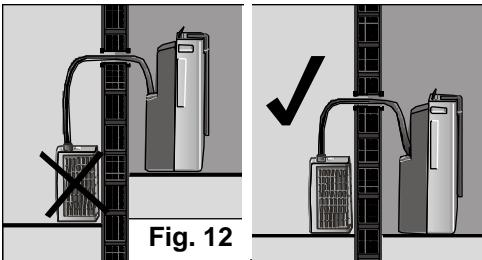

Fig. 12
- Finally, make sure that the flexible hose which joins the two units is **not crushed or restricted**, that the difference in height between the units does not exceed 1.5 m, **Fig. 11**, and that the outdoor unit is not lower than the indoor unit, **Fig. 12**.